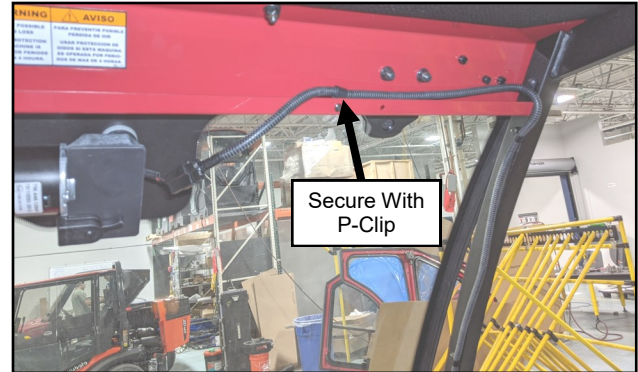

Fig. 15.1 (Attach Main Harness To Wiper Connector)
- 15.1 Attach the main power wire harness to the windshield wiper connector, and secure to the windshield support using a P-clip and hardware. Make sure there is enough slack to fully open the windshield. See Figure 15.1.